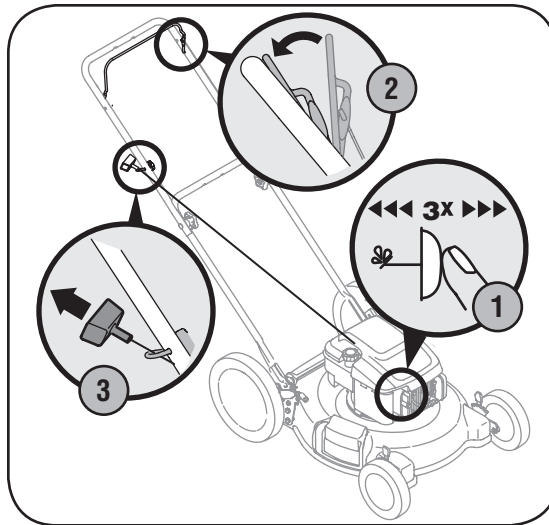

Figure 4-2: Starting the Briggs & Stratton engine.
1. If equipped, push primer three times (Kawasaki - one time). Wait about two seconds between each push. See Figure 4-2. In temperature around 55° F or below, prime five times. Do not prime to restart a warm engine.
2. Standing behind the mower, squeeze the blade control against upper handle. See Figure 4-2.
3. Holding these two handles together firmly, grasp recoil starter handle and pull rope out with a rapid, continuous, full arm stroke. See Figure 4-2. Keeping a firm grip on the starter handle, let the rope rewind slowly. Repeat until engine cranks. Let the rope rewind each time slowly.